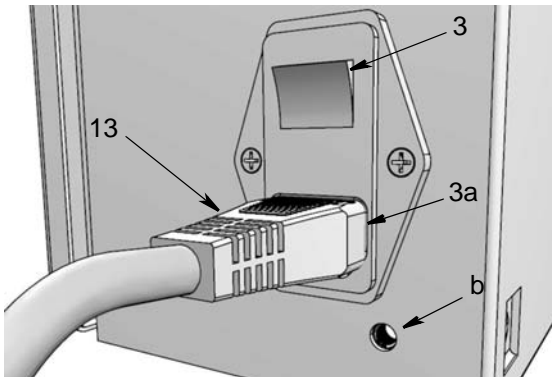

FIG. 21
1. Verify power to the system is disconnected and that the power switch (3) is in the OFF position as shown in FIG. 21.
2. To determine the position to install the power cord clamp (25) around the power cord, plug power cord